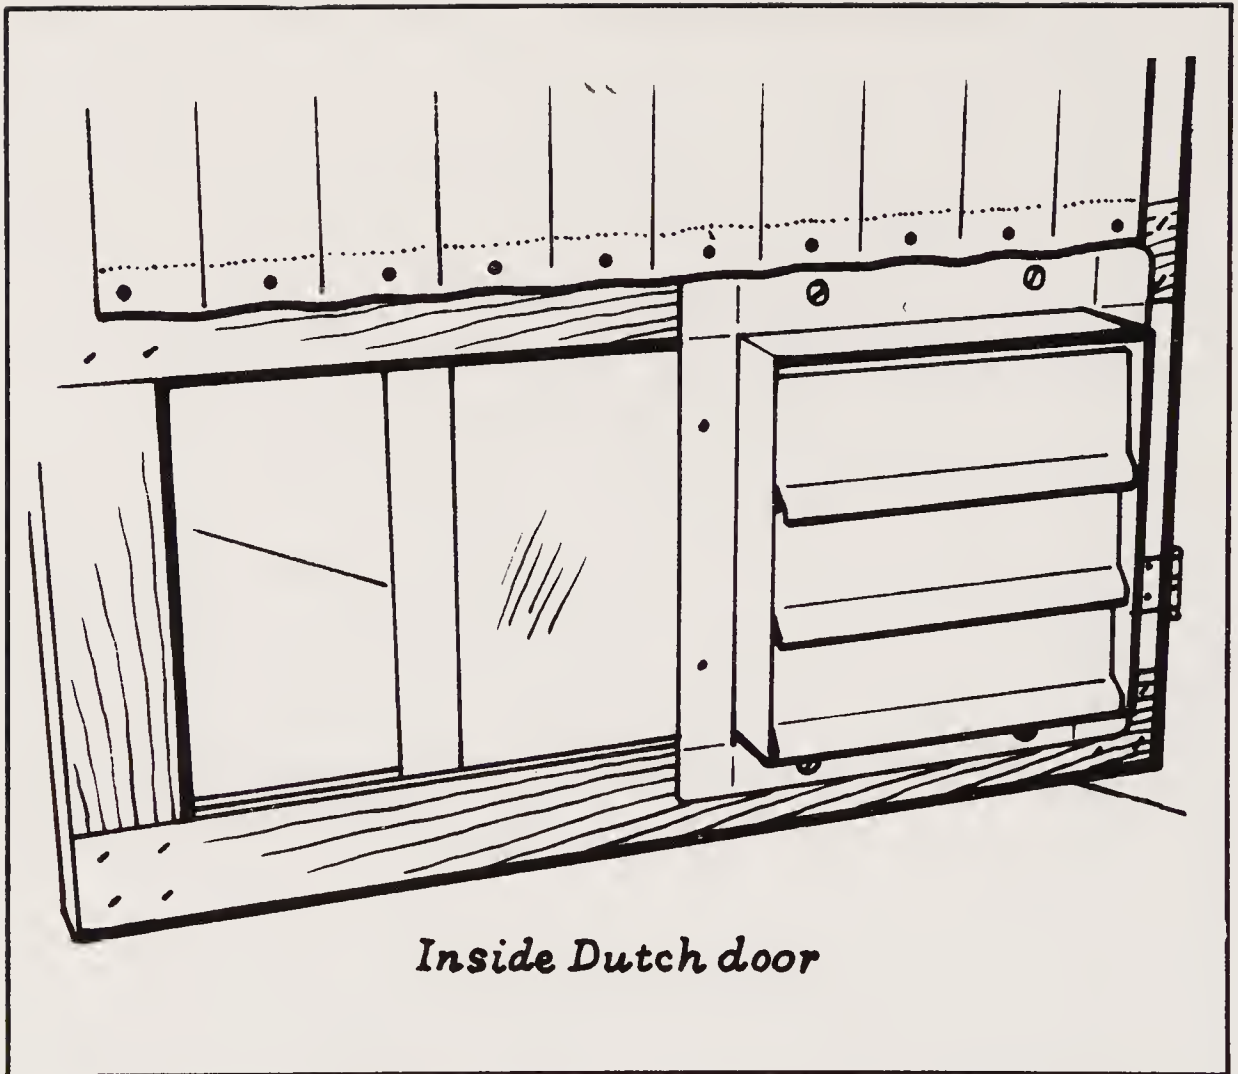

Fig. 2-47. Vent shutter inside Dutch door (courtesy of Peter Reimuller Co.).
**Vent Shutters.** See Fig. 2-47. Slide the fiberglass vents to the latch side of the Dutch door. Mount the vent shutters inside the vent panel opening on the hinge side using screws. The shutters open automatically to the inside when the fan is turned on.